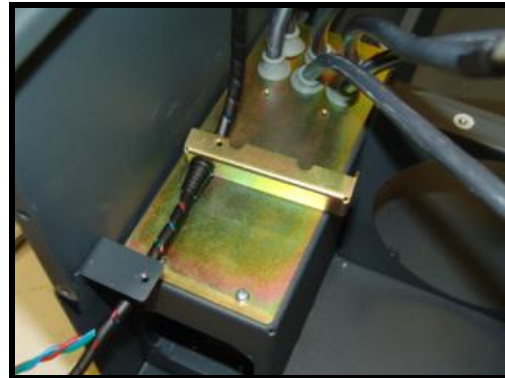

Figure 7.4.23
- 7) Remove the 2 screws (**M4x8** DIN-7895H) which hold the fixing bar for the fan cables to the chassis (see figure 7.4.23).
- 3) Hold the fixing bar of the fan cables with their 2 screws (**M4x8** DIN-7895H) (see figure 7.4.23).